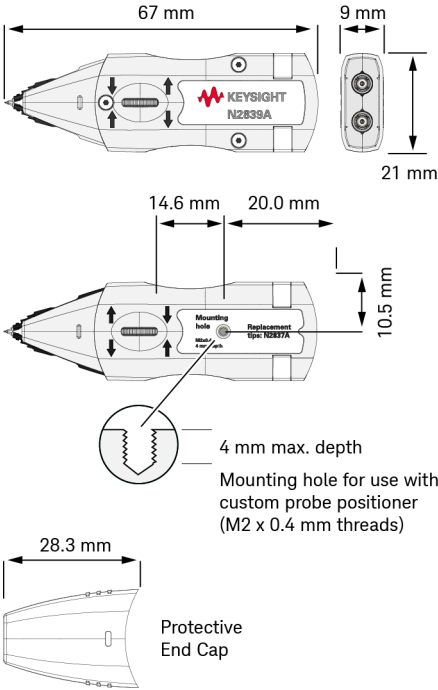

Figure 2 N2839A Dimensions
- For hands-free stability, use an N2784/5A or N2787A probe positioner. Or, construct a custom holder using the mounting hole shown in Figure 2 (M2 x 4 mm thread screw).